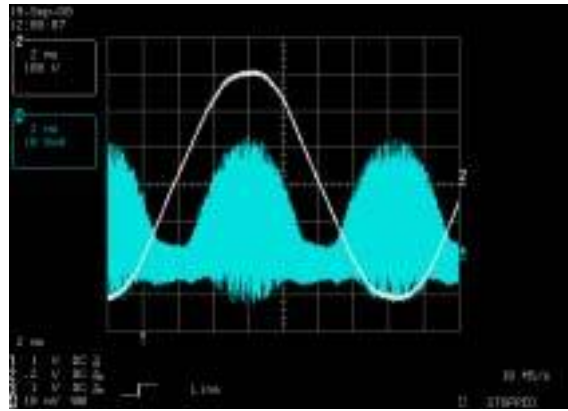

**Figure 6:** Input Voltage & Current
In most AC to DC power converters it is necessary to have the circuit act as a pure resistive load to the AC input line voltage. To achieve this, active power factor correction (PFC) can be implemented which, for an AC input line voltage, produces an AC input line current. It is also important to produce a sinusoidal input current which has a low total harmonic distortion (THD) and a high power factor (PF) (See Figure 6).